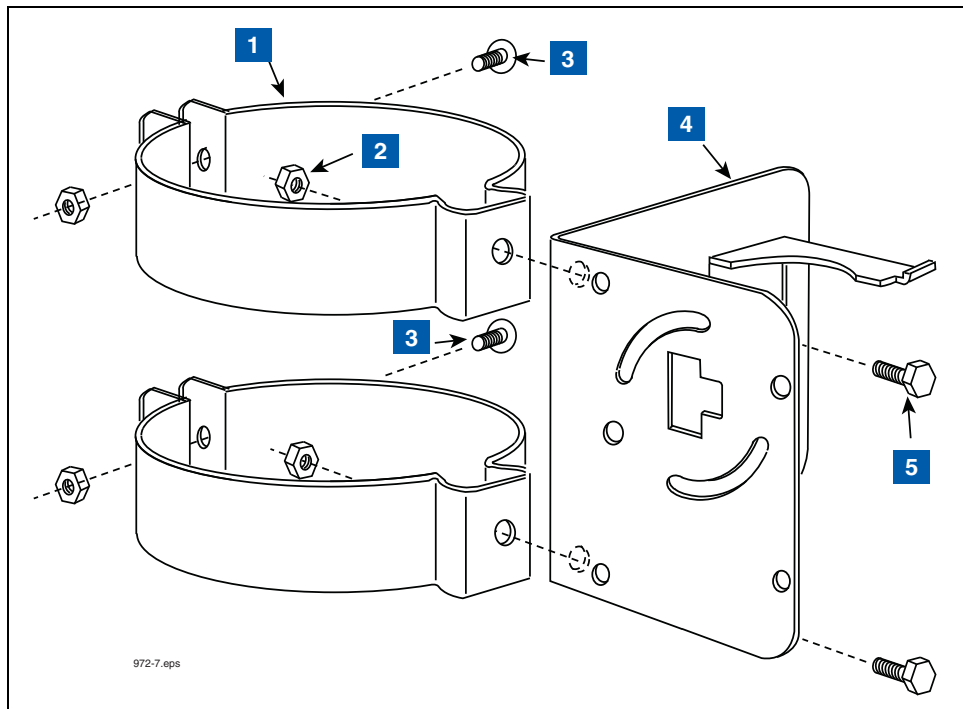

Figure 6. Attaching conduit hangers to battery mounting bracket
1. Connect the two 4-inch conduit hangers (item 1) from the installation kit to the battery mounting bracket (item 4) as shown in Figure 6.
2. Insert the bolt/nut pairs (items 2 and 3 in the figure) in each hanger as shown, but do not tighten.
3. Tighten the two bolt/nut pairs (items 2 and 5 in the figure) securing the mounting bracket to the conduit hangers.
1. Connect the two 2-inch conduit hangers (item 1) from the installation kit to the battery mounting bracket (item 4) as shown in Figure 6.
LEGEND FOR NUMBERED BOXES IN Figure 6
7. Raise the conduit hangers up the 4-inch riser pipe until the top one is several inches below the cap and brass ring. Tighten the bolts (items 3 and 6 in the Figure 6) that hold the mounting bracket in place.